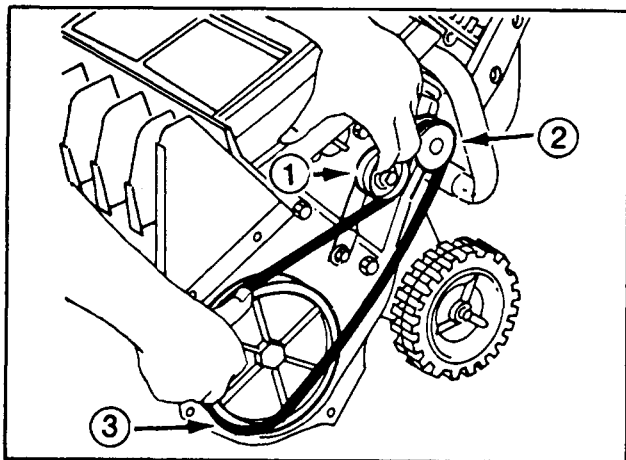

Fig. 10
4. **INSTALLING BELT** (Fig. 10) — Loop belt around engine pulley, under idler pulley and start belt around rotor pulley. Pull idler pulley up and rotate rotor pulley forward until belt fits into pulley.